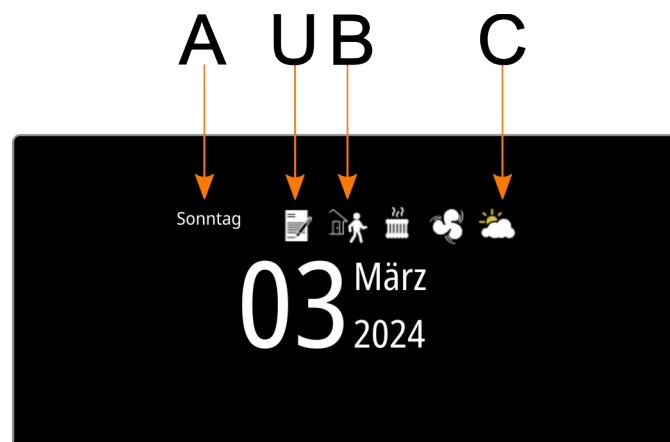

Figure 22: Premium display icons and info text
As show in figure 22, the operating mode of the controller is shown in the middle (B). From ETS application V2.3 onwards, it is possible to alternatively select whether the operating mode of a controller extension unit should be displayed here. Next to it is the output of the control variable or the 2-point controller, followed by the output of the fan control. (C) visualizes the weather info. The text (A) is partly context-related and is generated automatically depending on the language setting. The icon (U) can be set by the user via CO 10. The assignment of the CO values to the icon can be found on the following pages 44.